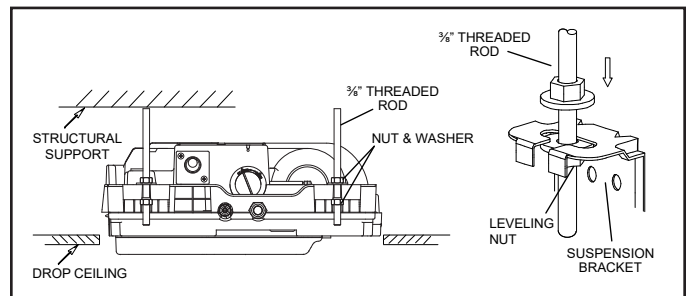

Figure 3. Suspension Hardware
5. Apply recommended HFC-410A refrigerant lubricant to the outside of the flared refrigerant lines (Figure 3-A).
6. Align the threaded connections with the flared refrigerant lines. Tighten the flare nuts lightly at first to obtain a smooth match (Figure 3-B).